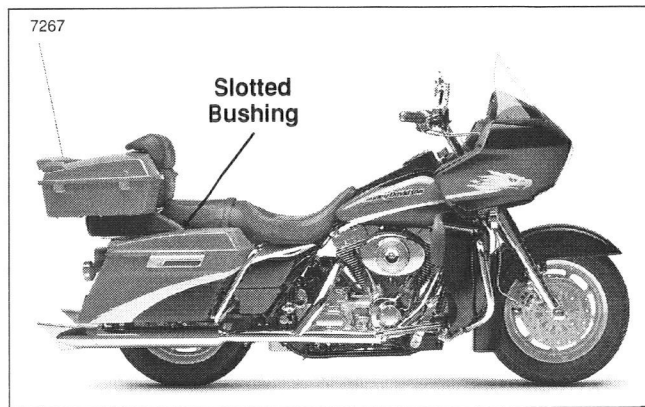

Figure 27. Slotted Bushings
2. See Figure 27. Locate the slotted bushing for the Tour-Pak rack just to the rear and both sides of the seat.